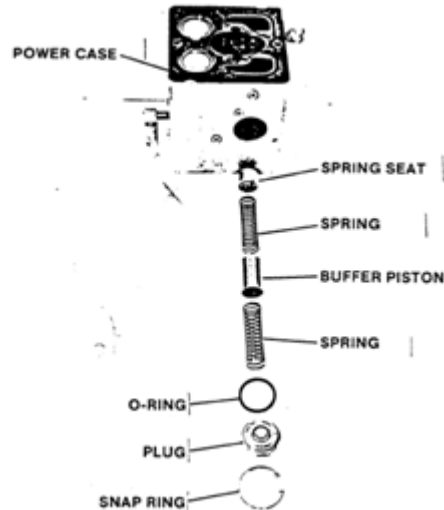

Figure 5-36. Compensation System
16. Put new O-ring on plug (Figure 5-36) and insert spring and plug into compensation cylinder in power case. Secure plug with snap ring.